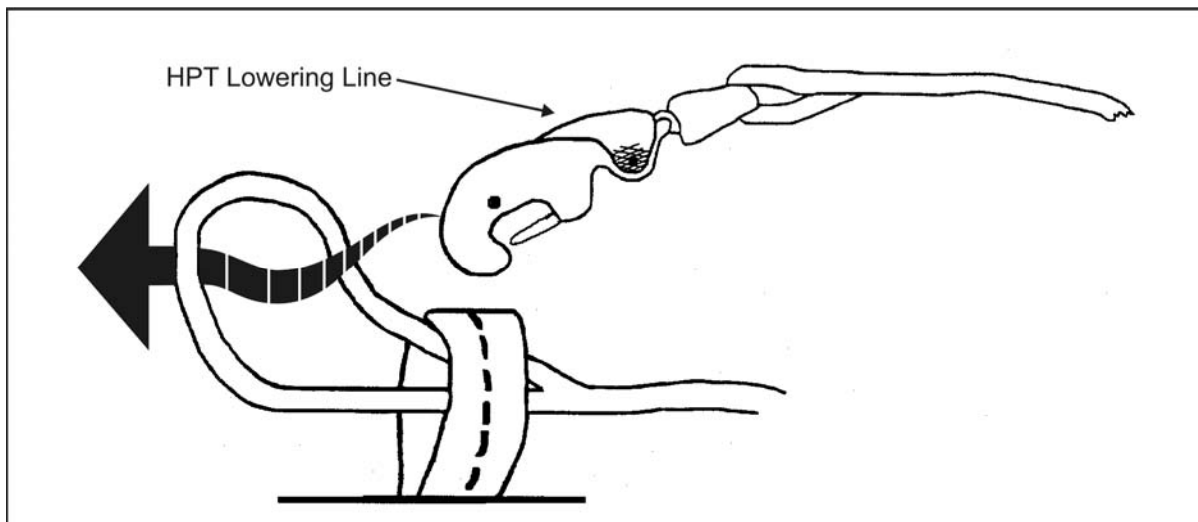

Figure 5-27. Securing the 8-Foot Lowering Line to the Cargo Carrier
- Inserts the quick-ejector snap through the sewn loop of the lowering line (Figure 5-27, page 5-24).